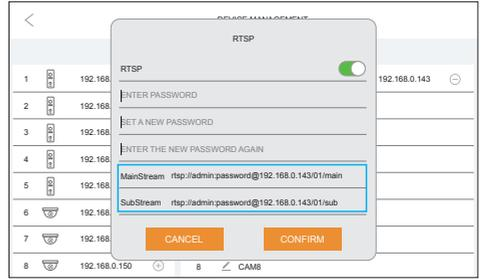

Figure 19
Step 4: After turn on "RTSP", the user can add the door panel to the NVR through the MainStream and SubStream addresses of the door panel, as shown in the Figure 19.